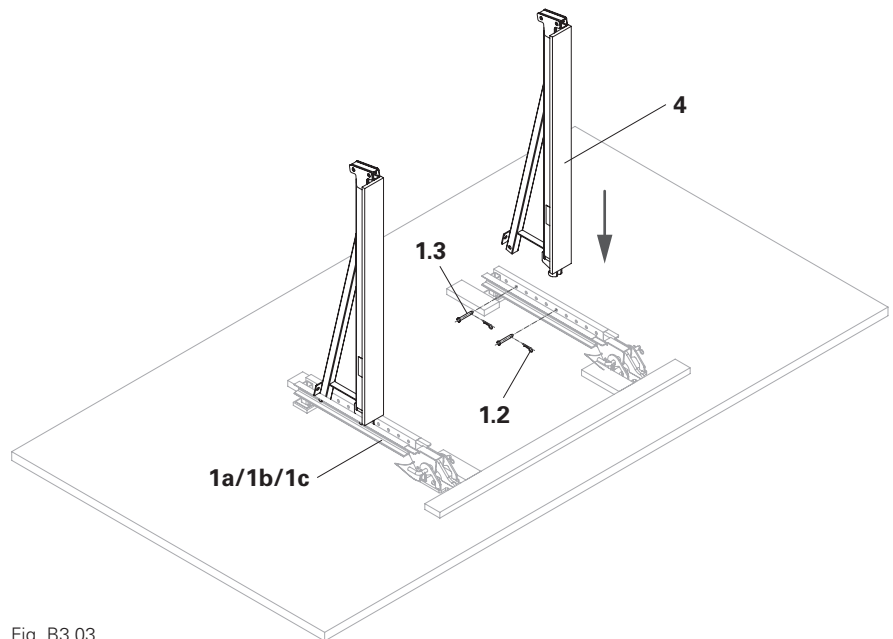

Fig. B3.03
2. Mount Platform Cantilever Beam VGK (**4**) with 2x bolts $\text{\O} 16 \times 80$ (**1.3**) to Bracket Post VGK (**1a/1b/1c**) and secure with cotter pin 471 (**1.2**). (Fig. B3.03)